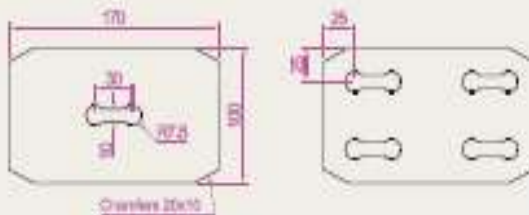

Fig. 5.52 Exercise 6
6. Construct the left-hand drawing of Fig. 5.52. Then with **Move**, move the central outline to the top left-hand corner of the outer outline. Then with **Copy** make copies to the other corners.